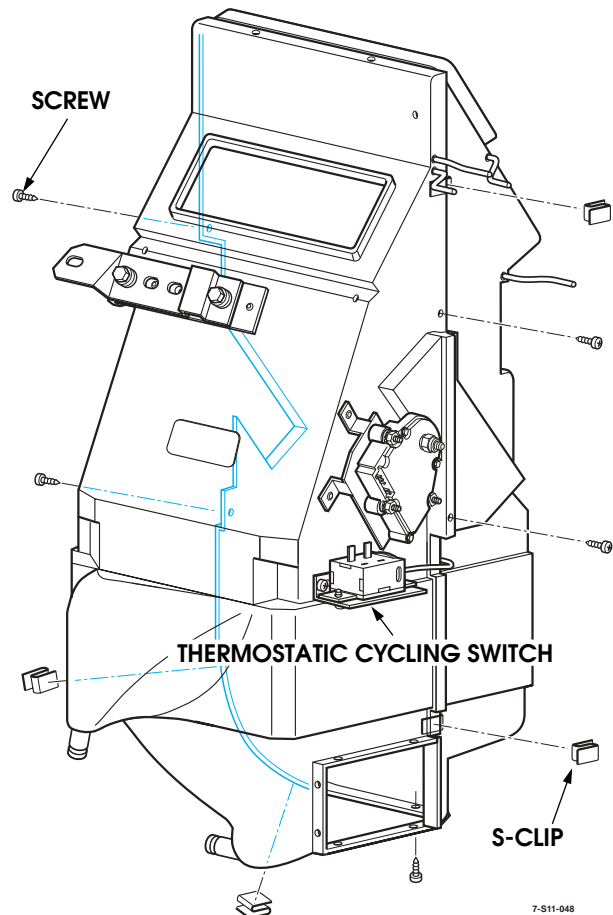

Figure 11-80: Case Half Hardware Removal
- Remove screws securing case halves together. Do not attempt to separate case at this time (Figure 11-80).
- Remove screws securing thermostatic cycling switch to HVAC unit case (Figure 11-80).